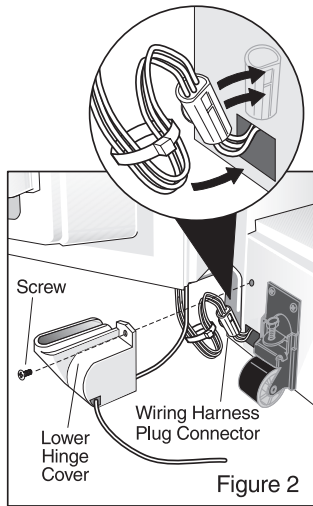

Figure 2
3. Remove screw to detach lower hinge cover (Figure 2).
2. Reconnect the wiring connector, making sure it is locked. Fold wires as shown and apply a twist tie (Figure 2). Insert tube through hole in cover. **Position cover over wires without pinching the wires.** Install the screw to attach cover.